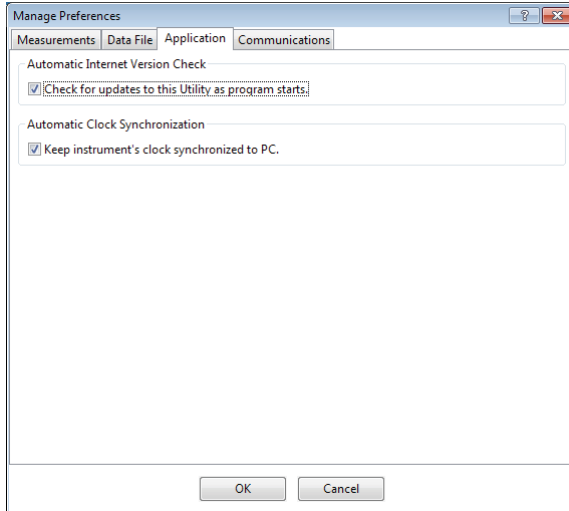

Figure 21 Application tab
• Application Tab (Figure 21):